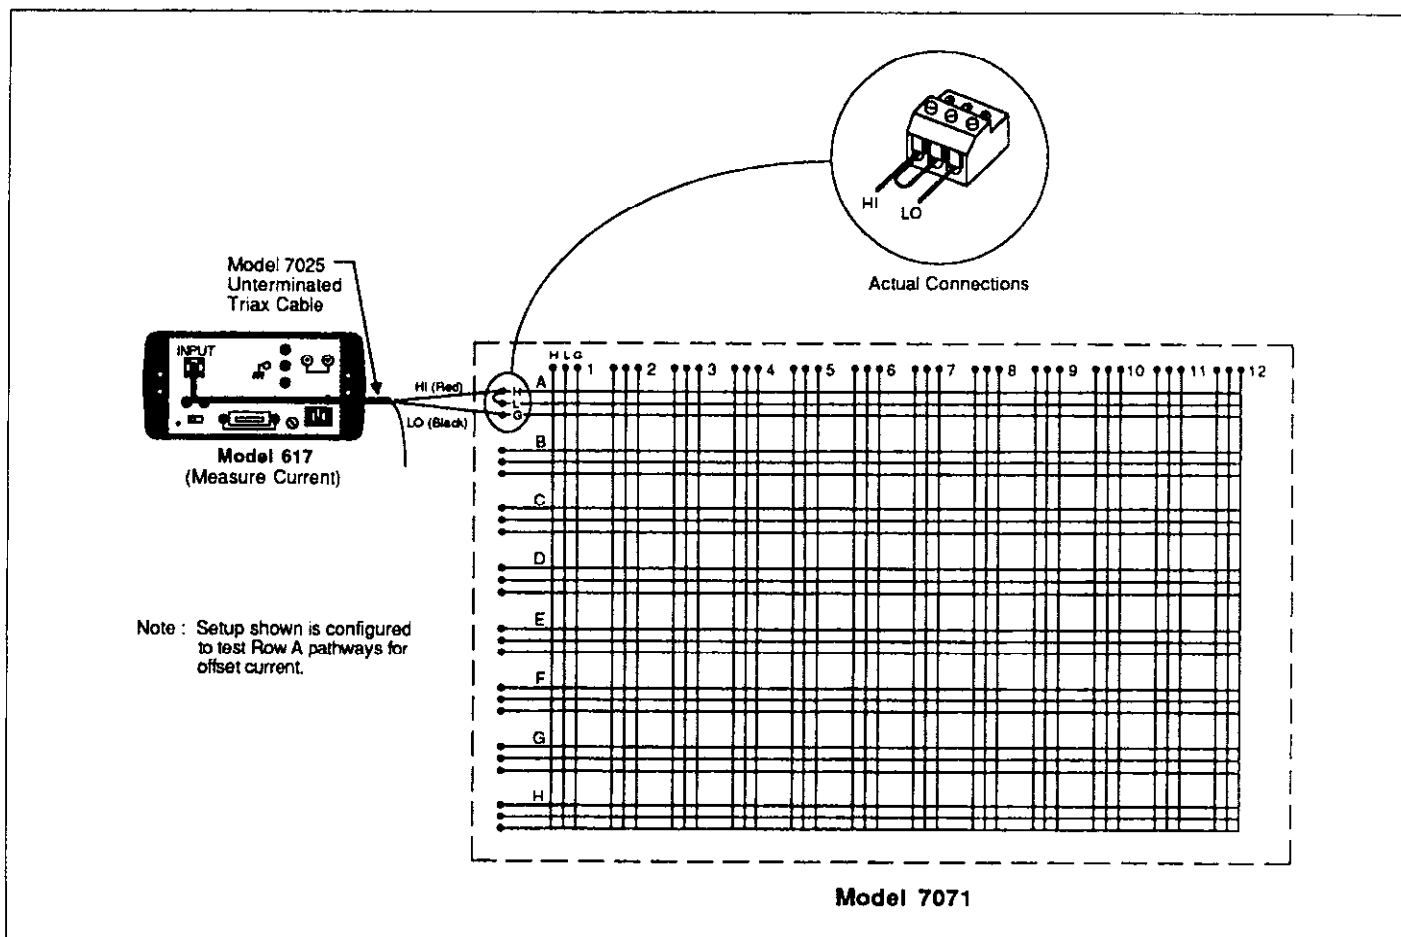

Figure 4-4. Common Mode Offset Current Testing
16. Rewire the terminal block as shown in Figure 4-4.